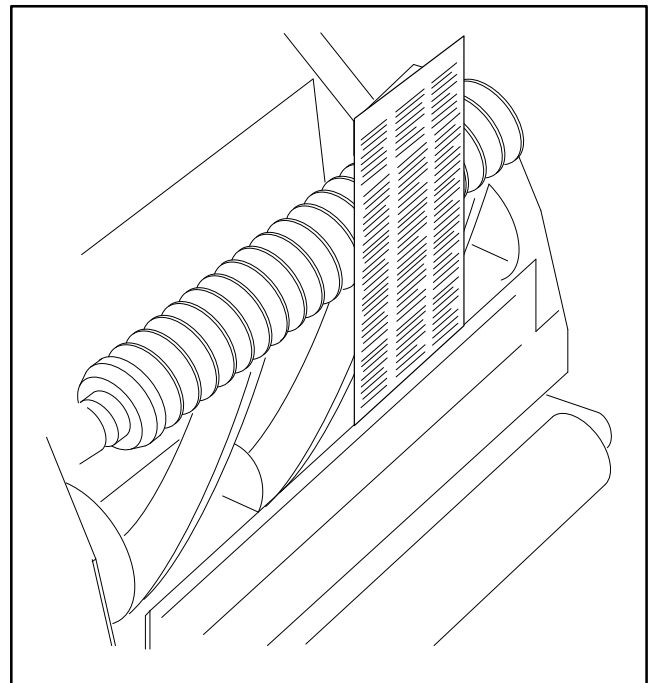

Figure 3
2. Tip cutting unit rearward to gain access to reel and bedknife (Fig. 3).